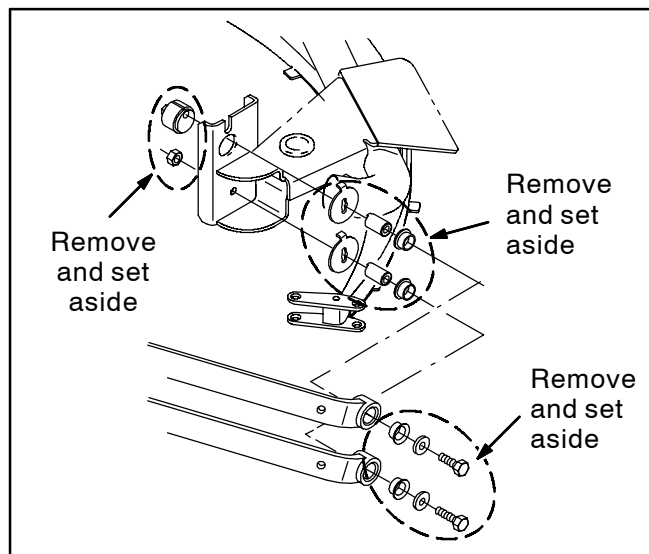

FIG. 1
2. Remove all hardware securing the rear squeegee to both sides of the machine. Set all squeegee mounting hardware aside. Refer to Fig. 1.
8. Use the saved hardware to install the new rear squeegee onto the machine. Refer to Fig. 1.